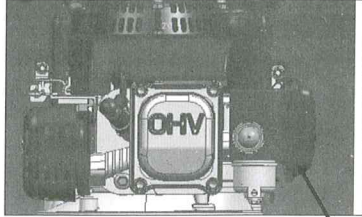

Fig.6A
2. **Starting the M40C:** Press the primer bulb 3-5 times before starting the engine. (Fig.6A)